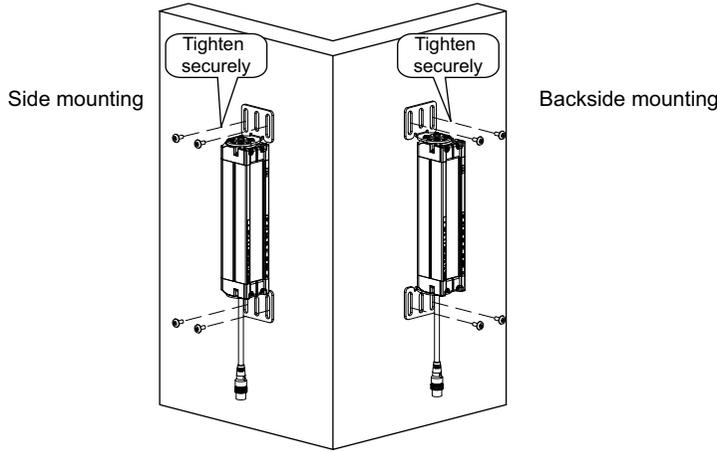

Figure 2
- Adjust the positions of top/bottom mounting brackets to the mounting place on the wall and tighten the screws. (Figure 2)